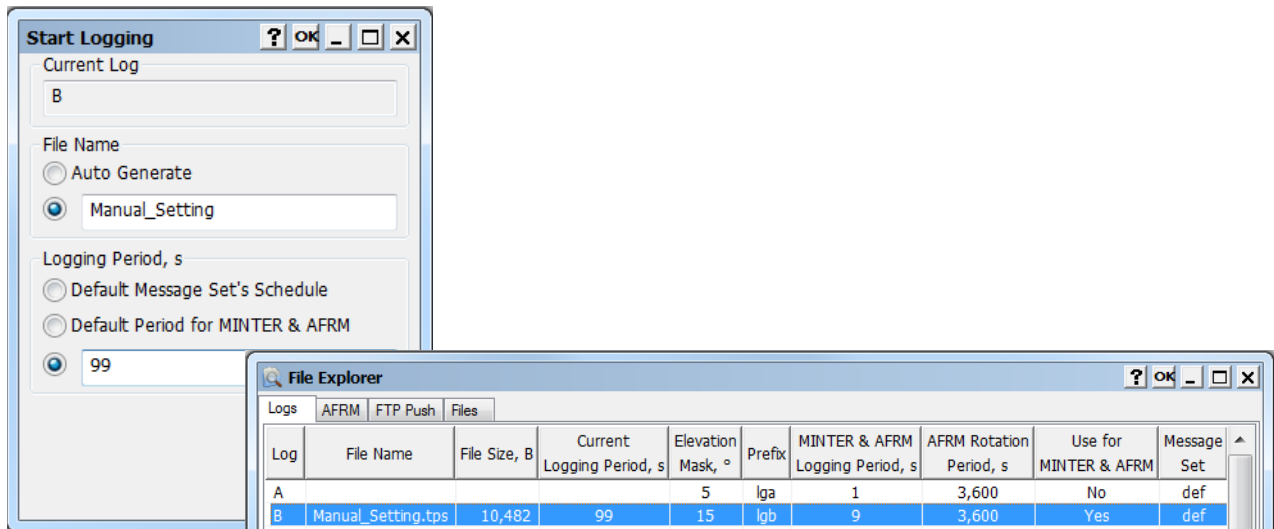

Figure 7-5: Start File Logging With Manual Settings
4. Click **OK** to start logging the file using the entered parameters. The current logging file is displaying in the **Logs** tab (Figure 7-5).